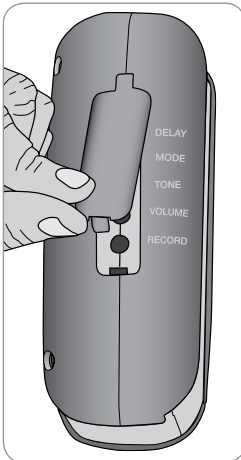

Fig. 12
1. Lift the programming control protective cover (Fig. 12).